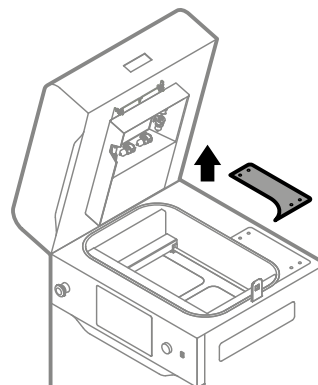

Fig. 12.63 Remove the access panel.
7. Remove the access panel on the top side of the printer (fig. 12.63).